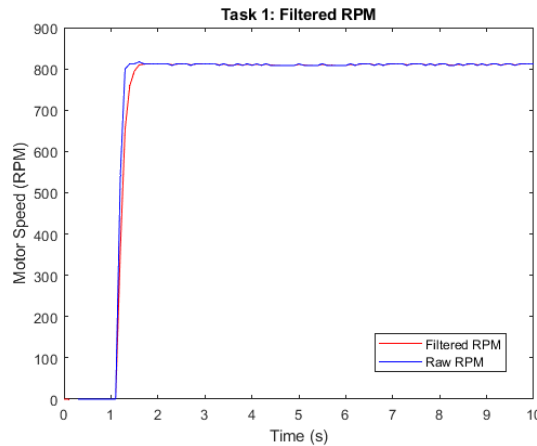

Figure 1: Low-pass filter's impact on the signal.
1. The filter coefficient was set to the simplest low-pass transfer function $\frac{1}{0.1s+1}$ to start smoothing the motor output, obtained by applying the step input. An example filter performance is shown in *Figure 1*.